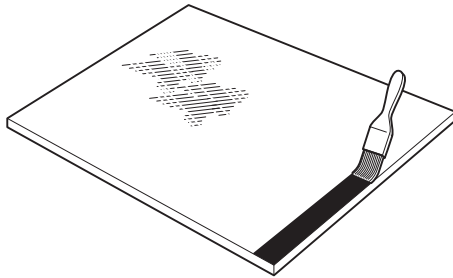

Fig 9.
- b If the glass does not have a black ceramic ink band, paint a band on the glass using 'Black Primer 206J'. The band should be approximately 25mm (1in) wide, and the edge should be a neat straight line. → Fig 9. \(□ B-23\).